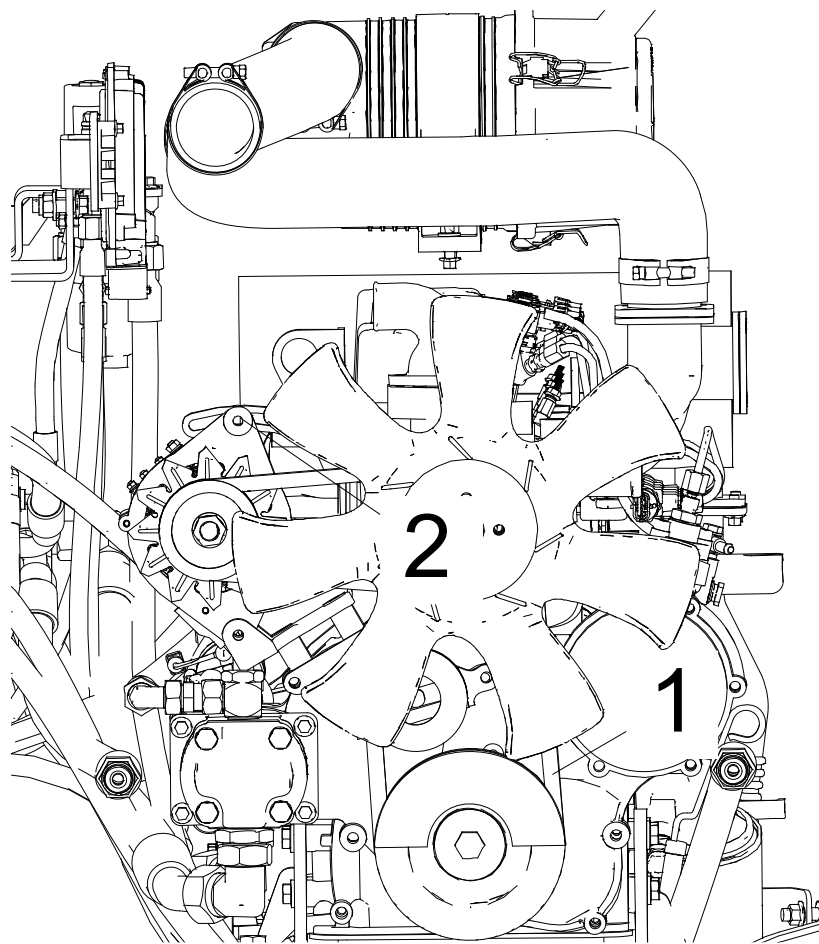

Fig. 5-16: V-belt Installation
1. Push the V-belt (see the Fig. 5-16) between shaft pulley and AC generator.
1. Unscrew the tensioning bolt (2) of AC generator, see the Fig. 5-16;